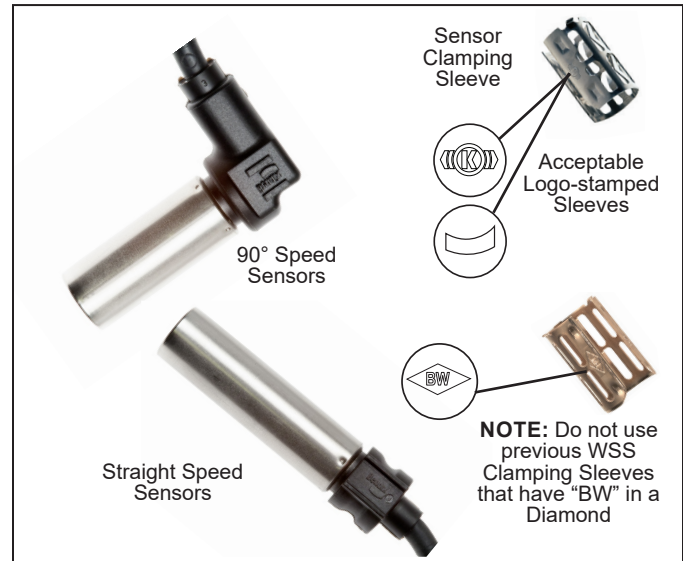

Figure 3 – Bendix® WS-24™ Wheel Speed Sensor
- **Wheel Speed Sensors (WSS):** See Figure 3. Located at selected hubs, WSS detect the rotation of individual wheels and send an electrical signal to the ECU proportional to the rotational velocity. The primary WSS connectors, S-C and S-D, are used for detecting wheel speeds. The TABS-8 Advanced Module has two (2) additional DIN connectors, S-E and S-F, which can be used as tri-state auxiliary inputs. These sensors do not have wheel speed sensing capabilities.
See Figure 3. Wheel speed data is provided to the TABS-8 Advanced Module by the Bendix® WS-24™ Wheel Speed Sensor (WSS). Typically, the WS-24 WSS is installed in a mounting block that is welded to the axle housing. The WSS are protected by a stainless steel sheath. They are designed to be used with stainless steel clamping sleeves, sometimes referred to as a “retainer bushing,” “friction sleeve,” or “clip.” The clamping sleeve provides a friction fit between the mounting block bore and the WSS.
2. See Figure 3. Install the new clamping sleeve fully into the block, with the retaining tabs toward the inside of the vehicle. Note that WS-24 WSS must use the correct clamping sleeve to avoid problems associated with reduced retention force, such as sensor movement, and resulting ABS DTCs.